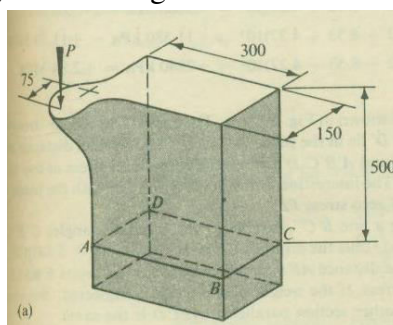

Fig. 5
9. Find the stresses at four corners at the section ABCD for the block shown in Fig.5, If $P = 64\text{ kN}$. Neglect the weight of the block. **14M**